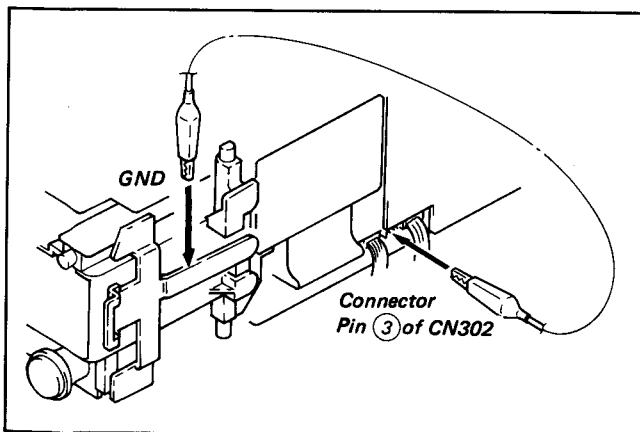

Fig. 8-55.
- 3) Short-circuit Pin ③ of CN302 and GND on SS-64 board. (See Fig. 8-55.)